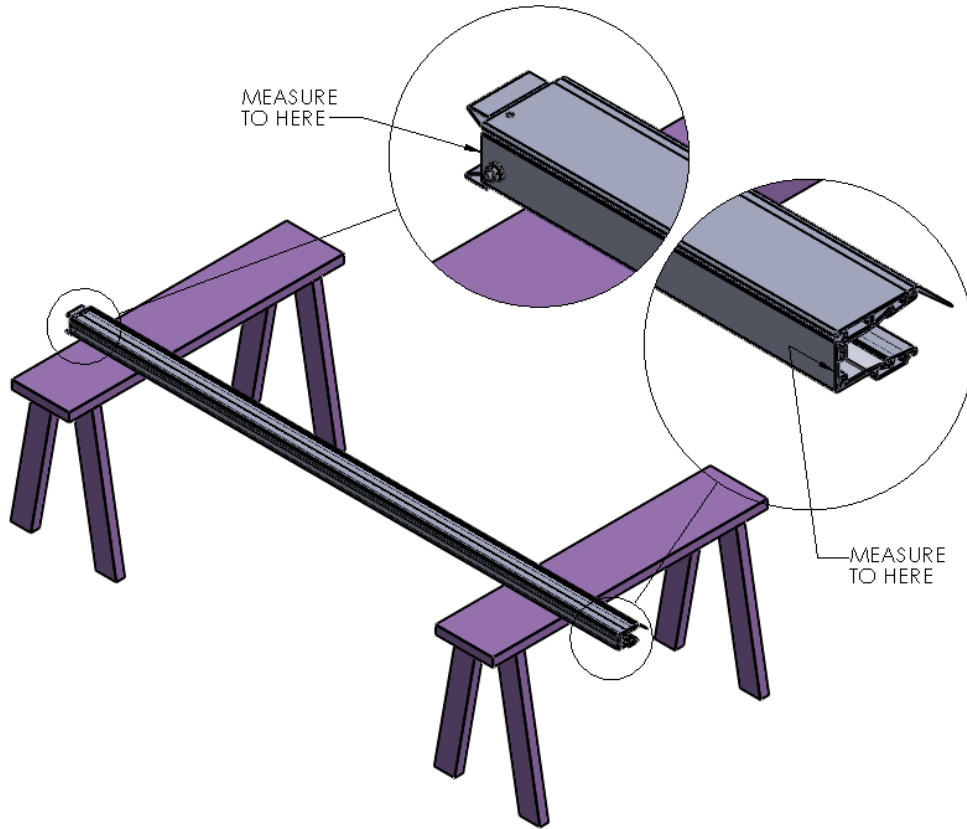

Figure 4 MEASURE TRACK HEIGHT
5. Set one of the Vertical Track Assemblies on your work surface and measure its overall length. Do not include the Transition piece in your measurement. Add  $\frac{1}{4}$ " to this number and take note. This is the height dimension needed to mark the location of the Header Bracket's bottom edge. With that number, mark a horizontal line on each side of the opening that intersects the previously drawn vertical line. (Figure 4 MEASURE TRACK HEIGHT) (Figure 5 MARK TRACK HEIGHT)